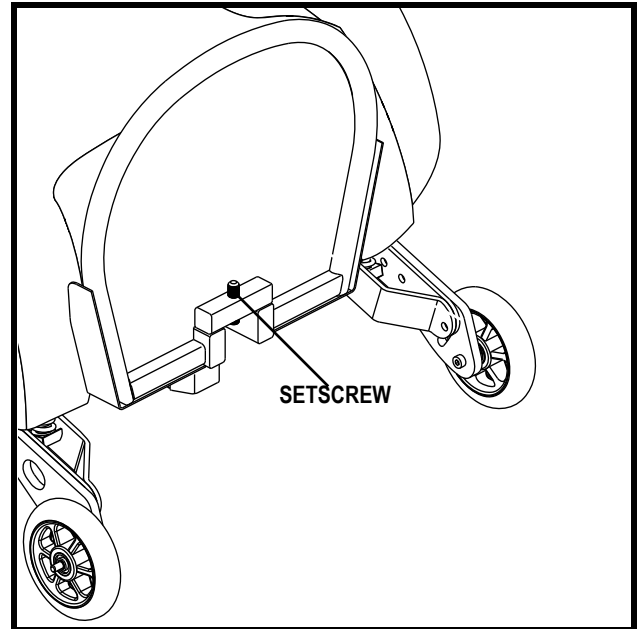

Figure 15. Foot Platform Angle Adjustment
1. Locate the setscrew on the underside of the foot platform. See **figure 15**.